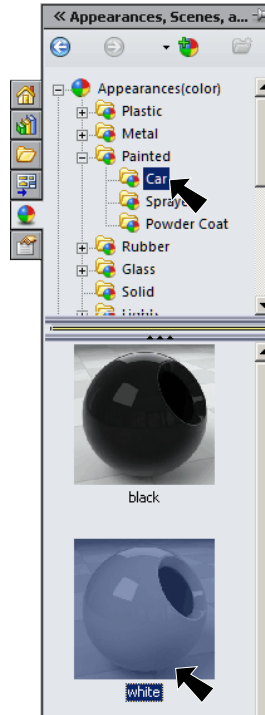

Fig. 10
Step 3. In the Appearances Task pane, expand **Painted**, click **Car** and in the lower pane select **white**, Fig. 10.